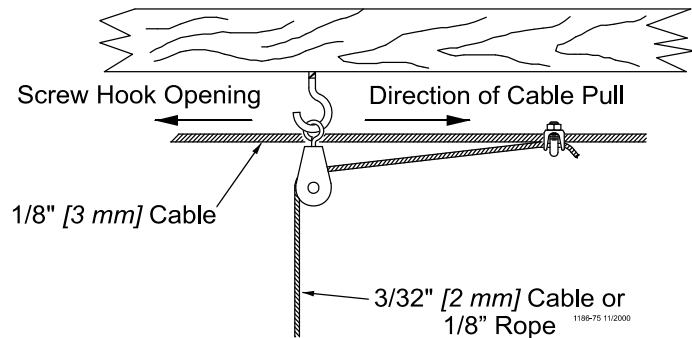

Figure 8. Screw Hook Installation
Screw the threads all the way in to prevent bending. The opening of the hooks must point away from the direction the cable pulls. See **Figure 8**
3. After the screw hooks or ceiling hooks have been secured to the trusses install the pulley assemblies as shown in **Figures 8 & 9**. Make sure the screw hooks or ceiling hooks are pointing in the proper direction (opposite the winch).